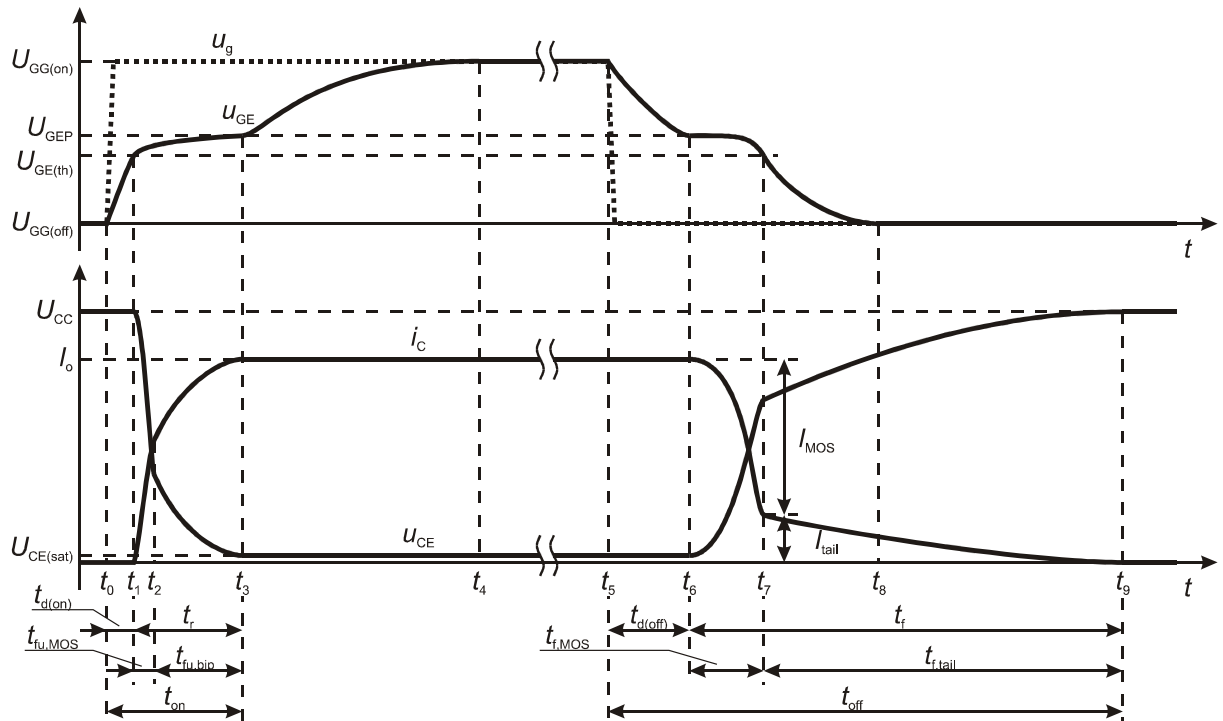

Fig. 2. The waveforms of u_{GE} , u_{CE} and i_C during one switching cycle of an IGBT with resistive load
14. Adjust (generating the switching pulse after each change of settings) the time base and trigger moment position (*SEC/DIV* and *HORIZONTAL POSITION* knobs) so that the pulse of the u_{GE} voltage is visible in its entirety (see Fig. 2) and occupies most of the screen horizontally.
- whether the waveform is correct (see Fig. 2).
- waveform position using the channel 4 *VERTICAL POSITION* knob (on the oscilloscope), so that the current waveform is displayed optimally, i.e. maximally fills the screen vertically but does not go beyond the screen. Check that the waveform is correct (see Fig. 2).
- (a) adjust the time base (*SEC/DIV*), trigger moment position (*HORIZONTAL POSITION*) and possibly the trigger level (*LEVEL*) so as to observe the turn-on (not any other operating state) of the transistor with as much accuracy as possible, considering phenomena in the transistor's main circuit, i.e. the t_{on} time interval (see Fig. 2);
- instead of transistor's turn-on, its turn-off during the t_{off} time interval should obviously be considered as defined based on physical phenomena (i.e., not according to technical definitions but according to Fig. 2);
Due to the current tail occurring, the collector current should be found at the zero level only after the tail ends and not when the drive voltage u_{GE} falls down to zero (see Fig. 2). In case of doubt, consult the oscilloscope image with the teacher.